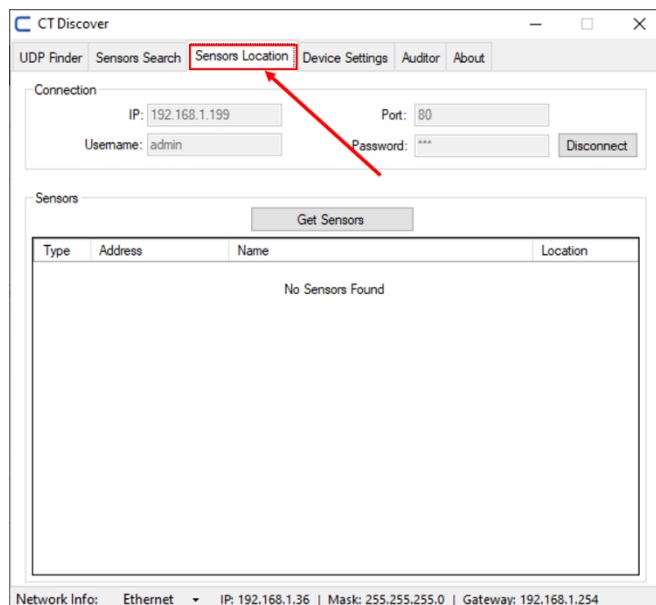

Figure 25 – CT Discover “Sensors Location” tab
1. Go to “Sensor Location” tab (Figure 25).